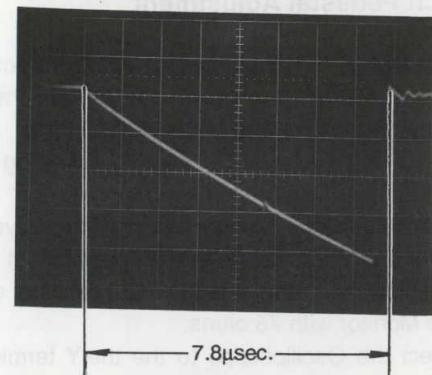

Fig. 4-6
- Adjust VR21 to obtain the pulse width of $7.8 \pm 0.1 \mu\text{-sec}$. as shown in the Fig. 4-6.